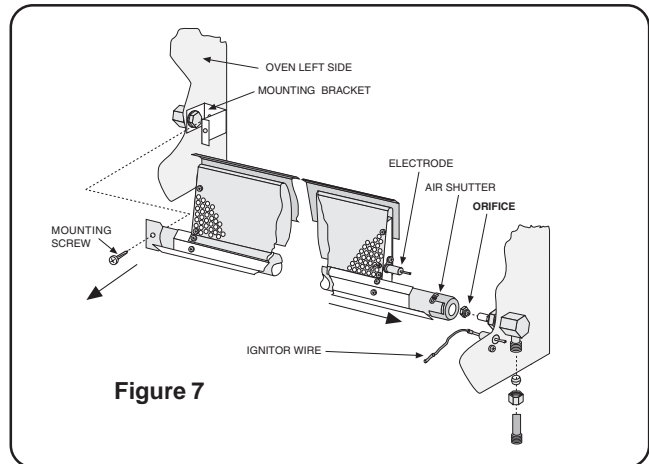

Figure 7
1. Remove the Backburner assembly (Figure 7).